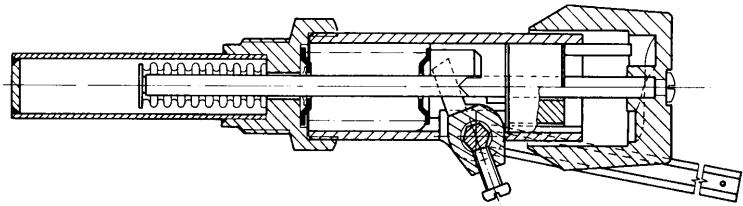

Fig. 7
4.6.1 "THERMOMAT RT-C" Regulator (fig. 7)